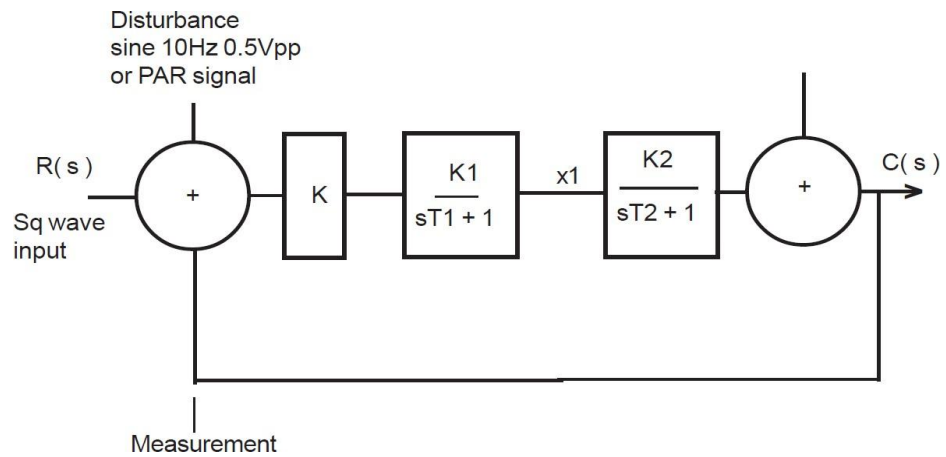

Fig. 7b. Way to connect disturbance adder in the second order circuit at input.
1. Connect the circuit as shown in fig 7b.